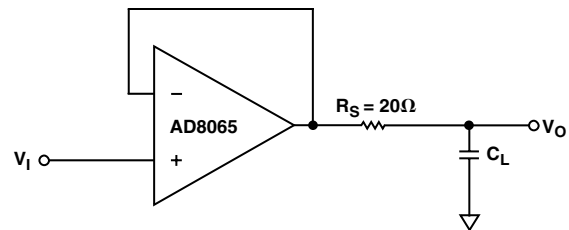

Figure 7. Output Isolation Resistor
- 1) As shown in Figure 7, put a small value resistor (R_S) in series with the output to isolate the load capacitor from the amp's output stage. A good value to choose is 20Ω (see TPC 7).